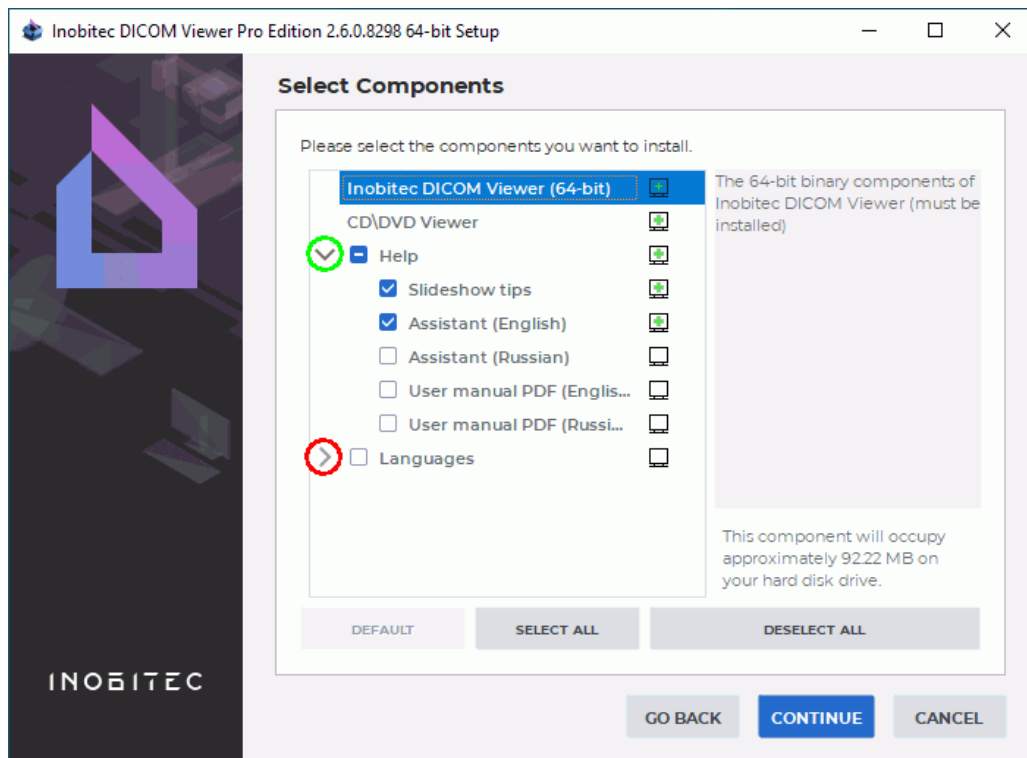

Figure 7: Select Components Window
9. In the **Select Components** window, (Fig. 7) select the required components by check the boxes. To expand or collapse the component tree, click on the symbols to the left of the component group name (highlighted in red and green in the Fig. 7):